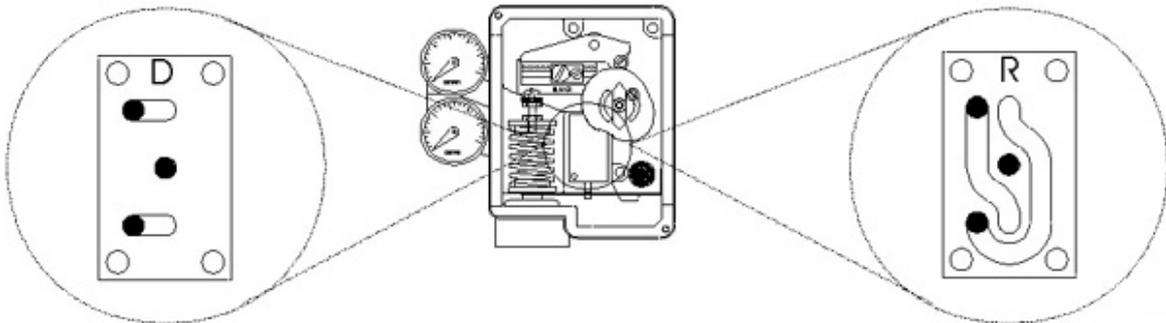

Figure 5 : Swop over piece
- 3.1.1.1 The piping configuration is not critical because the swop over piece can always be turned over if a mistake is made (see figure 5).